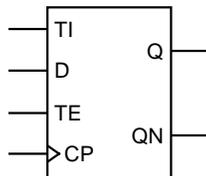

Figure 5. Example of Using `set_case_analysis` with a Sequential Element
**Example with Combinatorial Element:** For a multiplexer with two inputs and one select (as shown in Figure 5), the following command is used: